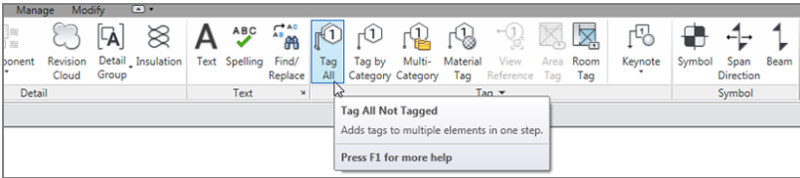

FIGURE 11.66: The Tag All button on the Annotate tab
3. On the Annotate tab, click the Tag All button, as shown in Figure 11.66.